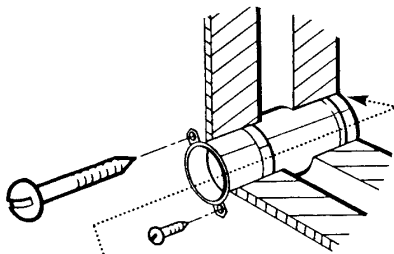

Fig. 68
9. Rotate liner back until the tags align with the holes drilled and secure it to the wall using suitable screws (Fig. 68).